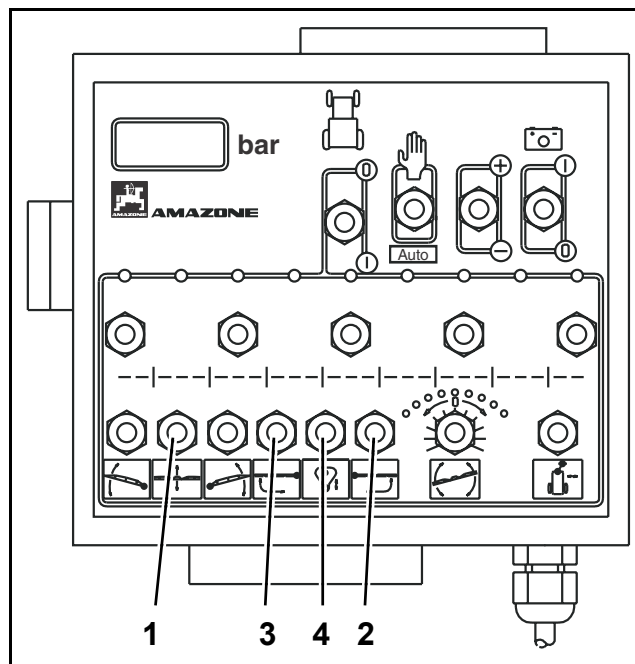
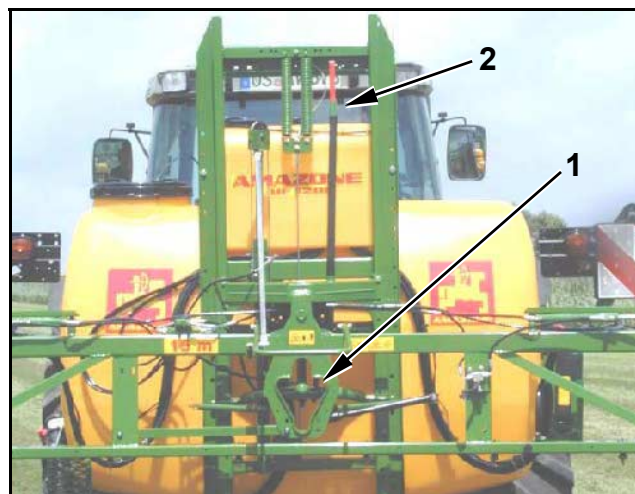

Fig. 85
Fig. 86
- Unlock and lock the swing compensation from the transport position via the key (Fig. 85/4).
- To unlock the swing compensation briefly push the key (Fig. 85/4) upwards. **The swing compensation** (Fig. 86/1) is unlocked when the green section of the lock indicator (Fig. 86/2) can be seen. **Fig. 86 illustrates the swing compensation when locked.**
- For locking the swing compensation briefly push the key (Fig. 85/4) downwards. The swing compensation (Fig. 87/1) is **locked** when only 1/3 of the red section of the unlock indicator (Fig. 87/2) can be seen. **Fig. 87 illustrates the swing compensation when locked.**